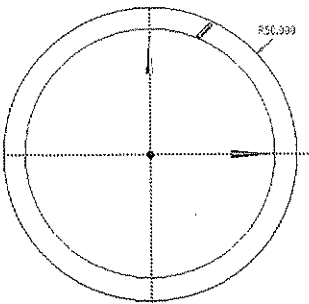

Figure 3-88 Specifying the offset distance
17. Move the cursor inside the circle and click to specify an offset distance, refer to Figure 3-88.